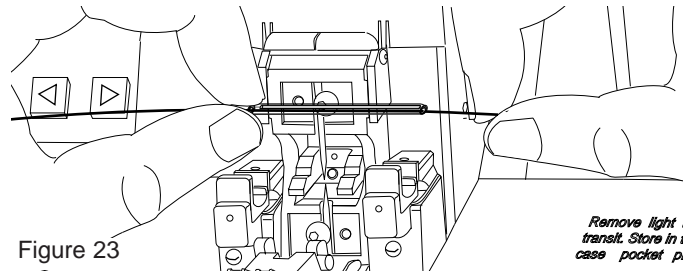

Figure 23
- b) Open the fiber coating clamps. Carefully remove the fiber from the V-groove. Slide the sleeve over the splice (Figure 23).